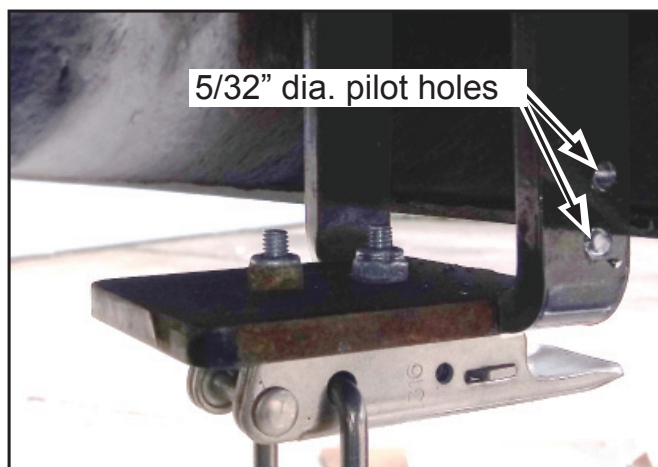

Figure 8
7. Using two #10 HWH self-tapping screws, attach Bracket 1 to the fixed generator latch/catch mounting pad using the pilot holes. See Figure 8.
8. While holding Bracket 2 (included in Repair Kit A) aligned with previously installed Bracket 1, mark and drill two 5/32" diameter pilot holes in the side, vertical surface of the movable generator latch mounting pad as shown in Figure 8.